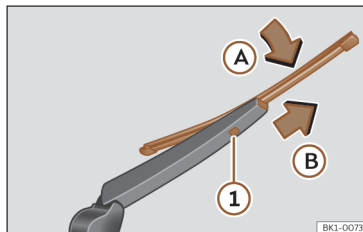

Fig. 164 Changing the rear wiper blade
- Rotate the blade lightly >>> **Fig. 164** (arrow **A**).
- Hold down the release button ① while gently pulling the blade in the direction of arrow **B**.